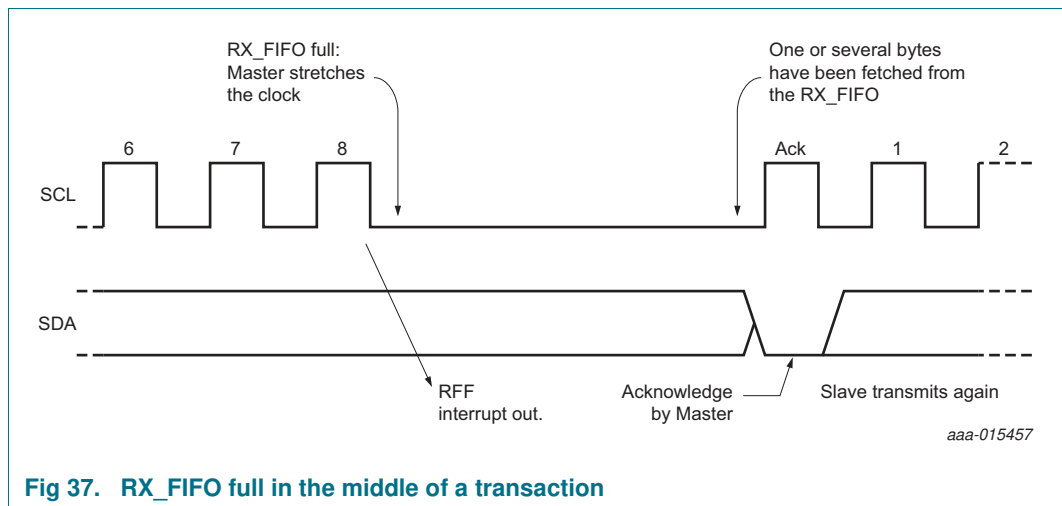

Fig 37. RX\_FIFO full in the middle of a transaction
2. For each data byte requested by the master, a dummy byte (i.e. the value of the data byte can be anything from 0x00 to 0xFF) must be loaded into the TX\_FIFO, so that the master acknowledges the data bytes it receives. Please note that the acknowledge bit is generated automatically; no specific programming is required for it. The received (acknowledged) data bytes will be stored in the RX\_FIFO (address 0x000), from where they can be fetched by the bus system interface. If the RX\_FIFO happens to be full (interrupt RX\_FIFO\_FULL) in the middle of a transaction, the master will automatically stretch the clock before the acknowledge of the last byte that is stored, until some room is made in the RX\_FIFO, refer to Figure 37. The data is actually written into the RX\_FIFO on the 8th clock cycle, so it can be read by software even if the clock is currently stretched in the Ack cycle (9th clock) due to RX\_FIFO\_Full.